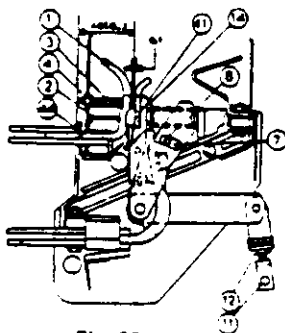

Fig. 26
B. Fixed and Moving Contacts Fig. 26 & 26A
1. Fixed Contacts (1)
3. With new contact pads installed close breaker and measure gap between tops of contact pads. The gap may be adjusted by varying the contact pressure. Referring to Fig. 26 turn the pole closing/insulating connecting rod (11) clockwise to reduce pressure and counter clockwise to increase. After obtaining the required 0.1mm spacing in the axis of the pads lock the connecting rod (11) with the blocking nut (12).